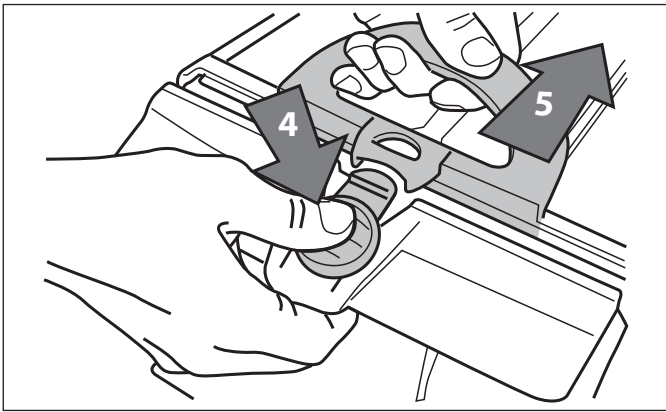

Figure 29. Open Filter Canister Assembly
7. Push the quick release button on the canister assembly (4) and pull open the filter assembly (5), as shown in Figure 29.